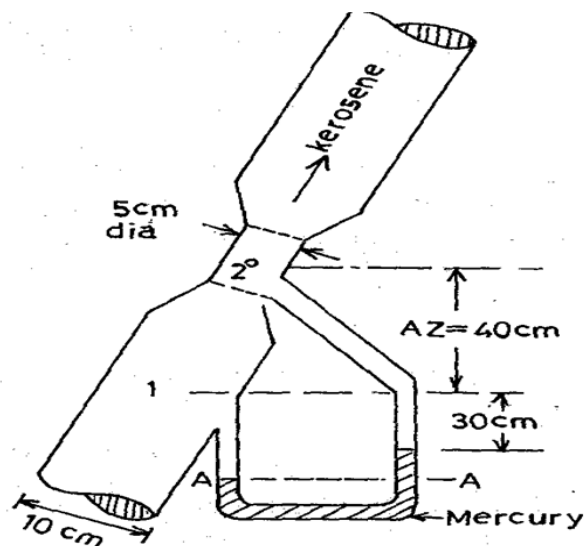

Fig. 5
7) Estimate the discharge of kerosene (sp gravity=0.8) through the given venturimeter shown in **Fig. 5**. specific gravity of mercury(Hg) is 13.55.